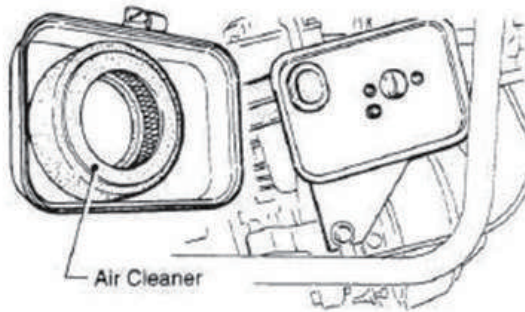

Figure 13 Engine Air Cleaner
- The air cleaner (Figure 13) on the engine side will hardly be contaminated, if it is, however after cleaning the element with kerosene, dip it in mixed oil consisting of 3 parts of gasoline and 1 part of engine oil. Then tightly squeeze out primary element (sponge) and shake off well the inner secondary element before installing them.